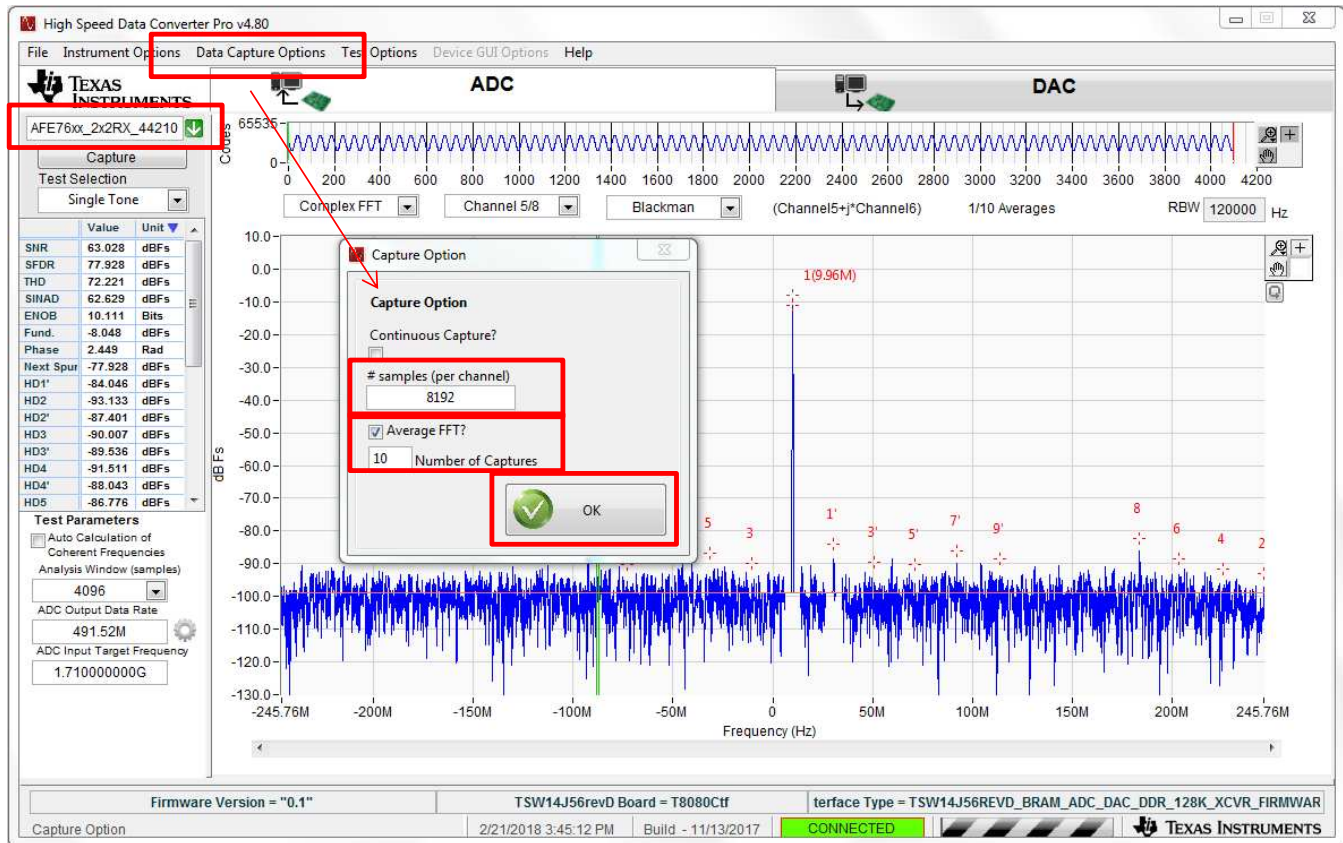

Figure 18. HSDC Pro Setup For RXADC Capture
1. Go to the ADC tab in the HSDC Pro GUI and select AFE76xx\_2x2RX\_44210 mode, then set up the number of samples per channel and the averaging feature (see Figure 18).